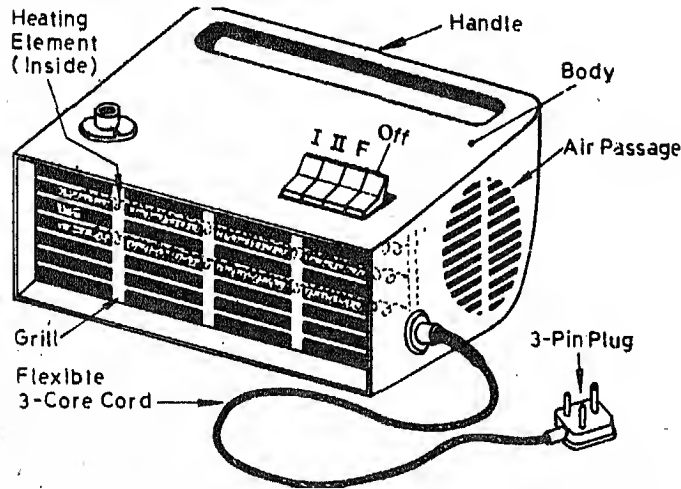

Fig.29.1 Air Heater / Heat Convector.
- (ii) Observe the fitting of the fan heater and its parts as shown in Fig 29.1.